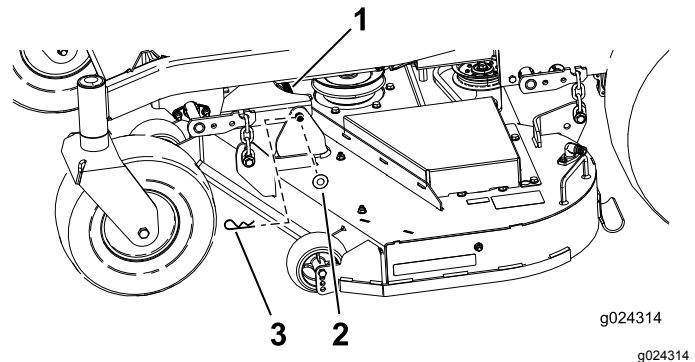

Figure 66
1. Remove the hairpin cotter and washer securing the link pin to the frame and deck, and remove the link bar (Figure 66).
9. Secure the link pin with the hairpin cotters and washers removed previously (Figure 66).